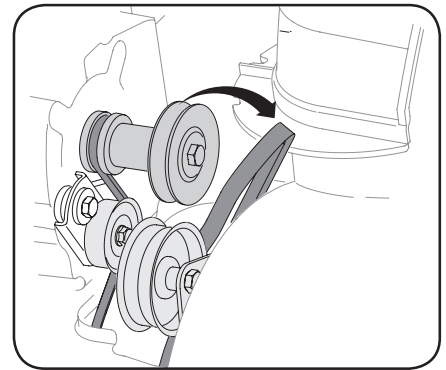

Figure 4-17
4. Roll auger belt off engine pulley. See Figure 4-17.